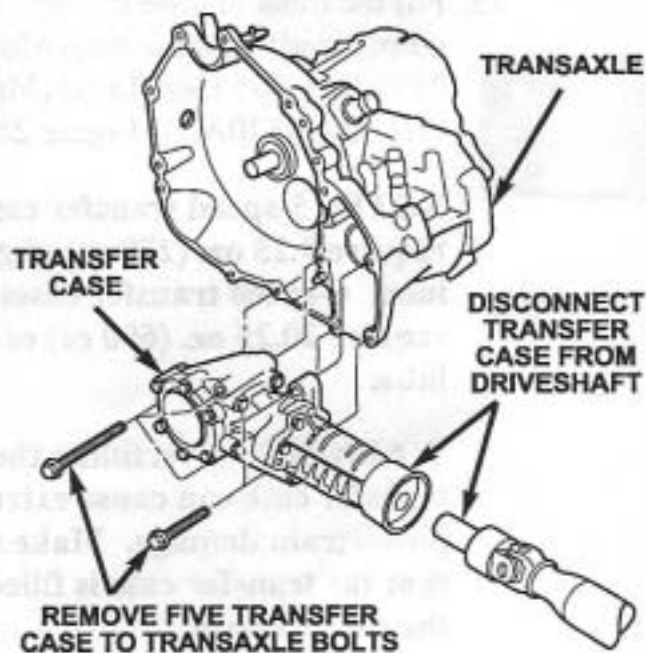

Figure 27
- Remove the five bolts that secure the transfer case to the transaxle (Figure 27).
- Remove the transfer case from the transaxle by tilting the case downward, then disconnect the transfer case from the drive shaft (Figure 27). Set the transfer case aside for return to the Warranty Material Return Center.
- Insert the driveshaft into the transfer case and then mount the transfer case onto the transaxle (Figure 27).
- Install the transfer case mounting bolts and tighten the mounting bolts to 65 ft-lbs (87 N·m) (Figure 27). Remove the temporary driveshaft support.